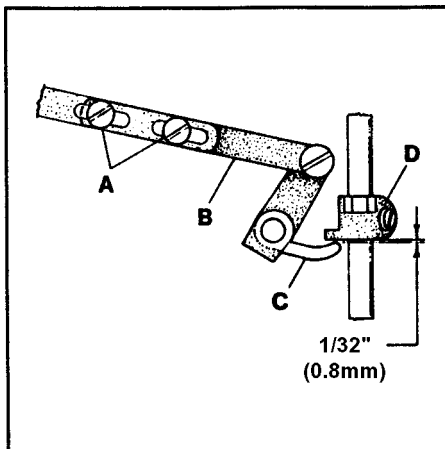

FIG. 22
Replace the presser spring and the presser bar regulating screw. Loosen screws (A, Fig. 22) in lifter lever link assembly (B) and position lever (C) so there is 1/32" (0.8mm) clearance between it and presser bar guide (D) when the feed dogs are below the throat plate.
NOTE: Make sure the $1/32"$ (0.8mm) clearance between the presser bar lifter lever and presser bar guide has been maintained. Refer to Fig. 22 if readjustment is necessary.